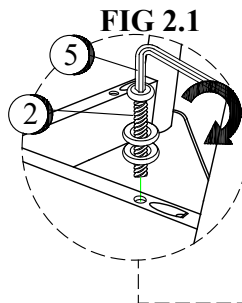

FIG 2.1
**Step 2.1** Insert the JCBC Bolt with washer (2) into the pre-drilled holes on the Cross bar (I, J) into the Cushion seat (A), tighten the JCBC Bolt with washer with Allen Key provided as shown on FIG 2.1